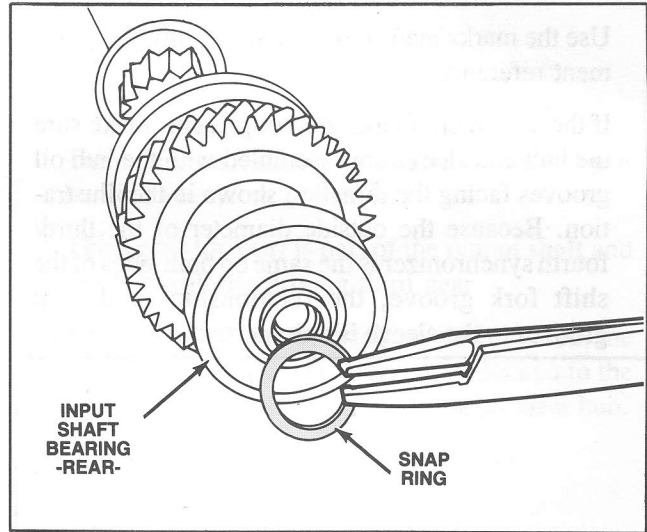

Figure 91 Snap Ring Installation
6. Install the bearings using a suitable driver. (Figure 91).